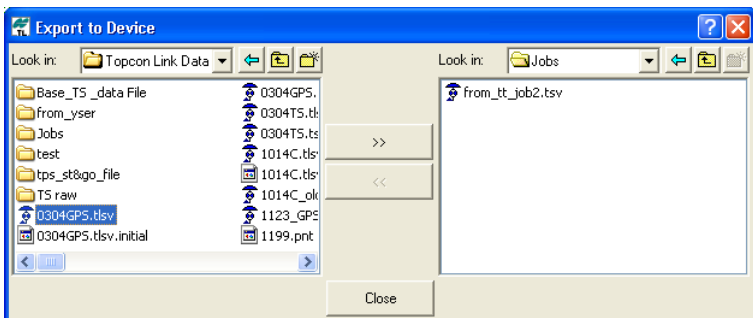

Figure 2-45. Export of the desired data to Device
2. Double-click the *Mobile Device* in the right panel of the **Export to Device** dialog box (Figure 2-45). Select the folder in the TPS Controller where the exported file will be saved. In the left panel of the **Export to Device** window, select a file for export. Click the double arrows.